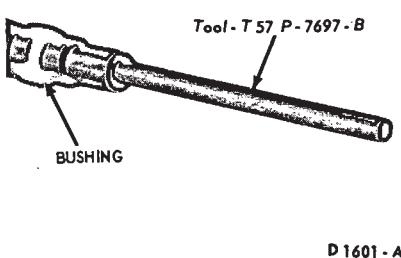

FIG. 20—Installing Extension Housing Bushing
4. When installing a new bushing use the special tool shown in Fig. 20.